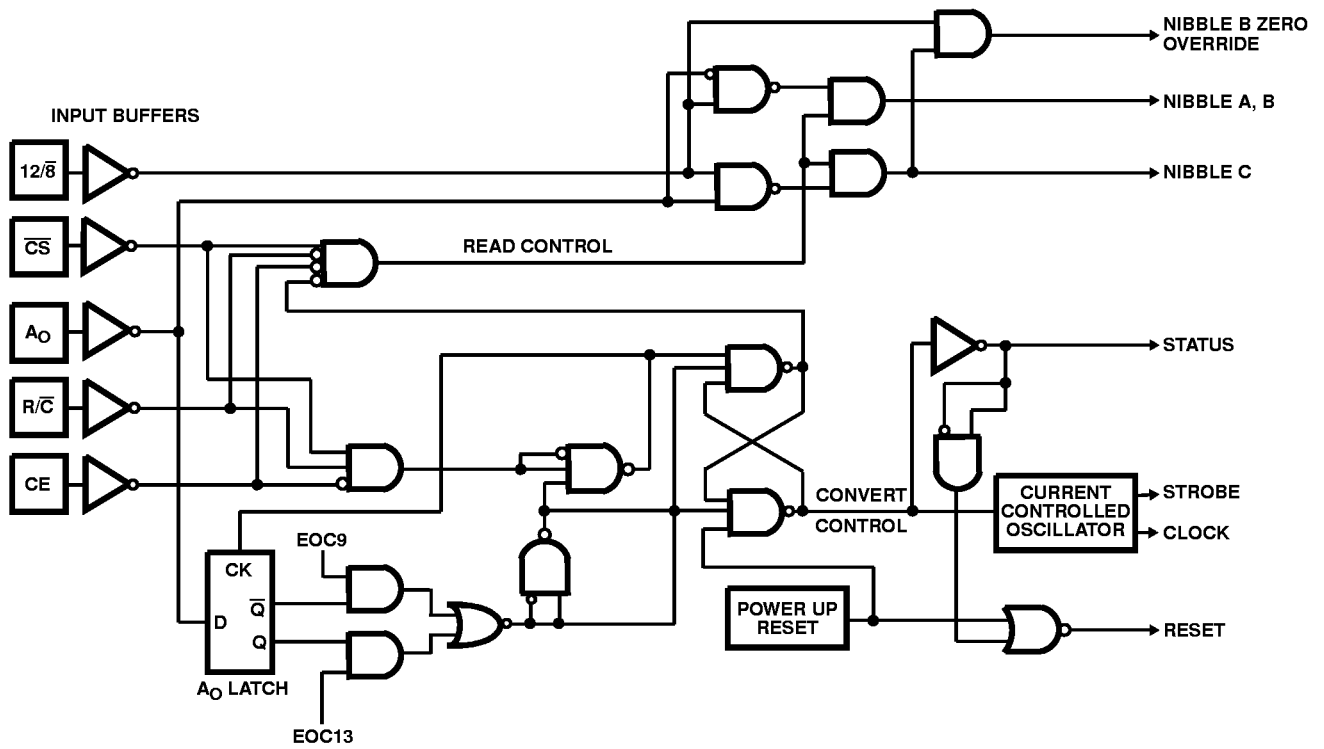

FIGURE 7. HI-774 CONTROL LOGIC
The HI-X74(A) includes logic for direct interface to most microprocessor systems. The processor may take full control of each conversion, or the converter may operate in the “stand-alone” mode, controlled only by the R/C input. Full control consists of selecting an 8-bit or 12-bit conversion cycle, initiating the conversion, and reading the output data when ready-choosing either 12 bits at once or 8 followed by 4, in a left-justified format. The five control inputs are all TTL/CMOS-compatible: ($12/8$, \overline{CS} , A_O , R/\overline{C} and CE). Table 1 illustrates the use of these inputs in controlling the converter’s operations. Also, a simplified schematic of the internal control logic is shown in Figure 7.